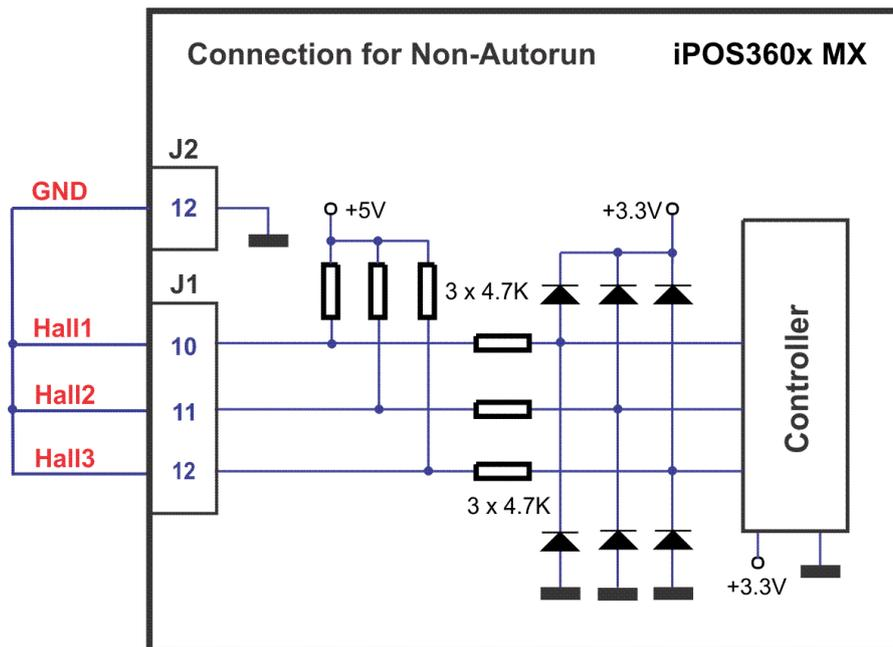

Figure 3.24. Temporary connection during power-on to disable *Autorun* mode
- Hardware – by temporary connecting all digital Hall inputs to GND, during power-on, for about 1 second, until the green LED is turned on, as shown in *Figure 3.24*. This option is particularly useful when it is not possible to communicate with the drive.